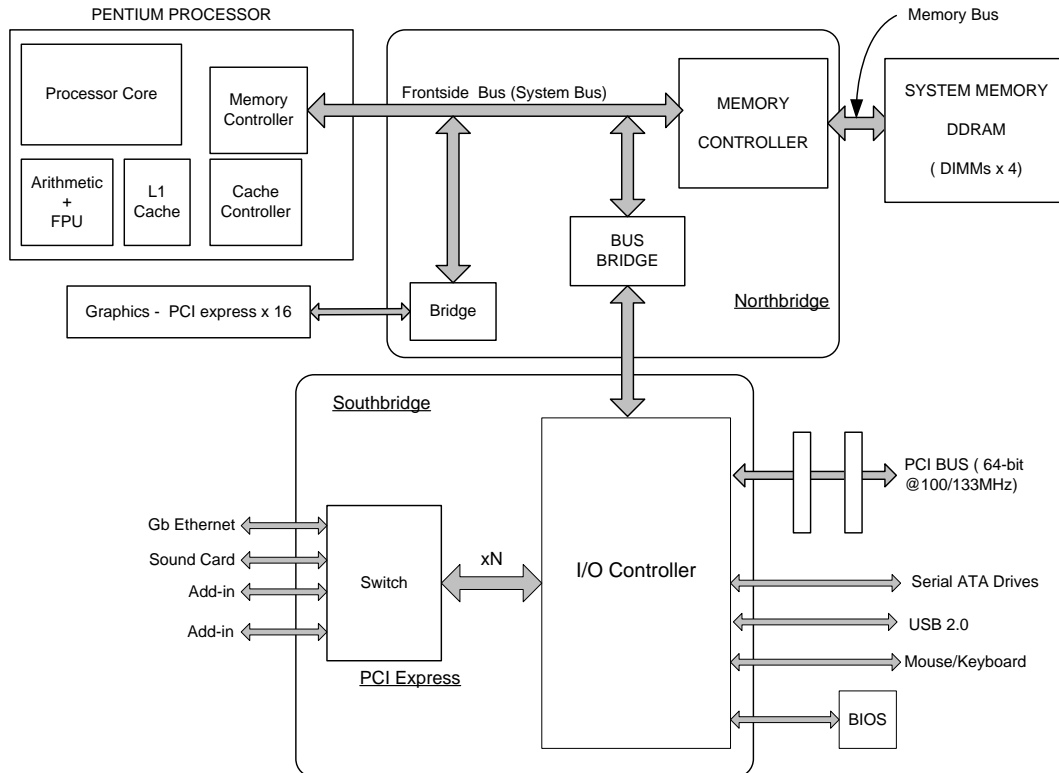

Figure 19 A PC system using PCI Express bus interfaces.
The application of PCI Express in a PC environment is shown in Figure 19.
- The Southbridge chip provides a xN PCI Express switch that allows add-in external devices. In Figure 19 four I/O PCI express lanes are provided for standard add-in peripheral devices, NICs, sound cards etc.